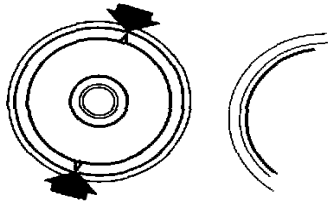

Fig. 71. Crack marks in the valve seat
1. Remove the old valve seat by grinding two crack marks in the seat (fig. 71) and cracking it with a chisel. Alternatively a used valve can be electrically welded to the seat and then knock out the seat.